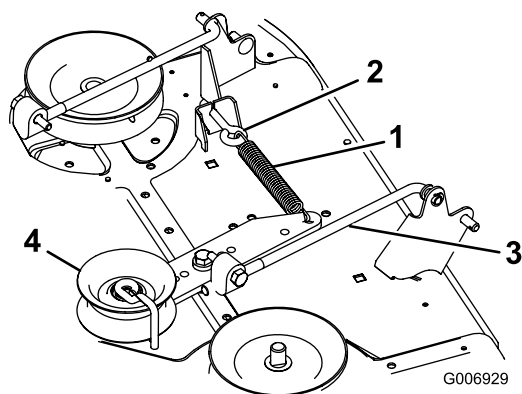

Figure 45
16. Hook the idler spring from the idler pulley arm to the eye-bolt on the mower (Figure 45).